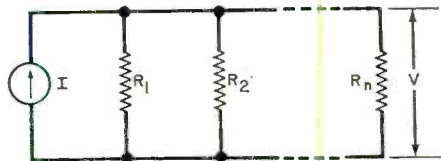

Fig. 13
B. Resistors in Parallel. Consider n resistors connected in parallel (Fig. 13). Applying Kirchhoff's current law, $I = V(1/R_1 + 1/R_2 + \dots + 1/R_n) = V(G_1 + G_2 + \dots + G_n) = VG_{eq}$, where $G_{eq} = G_1 + G_2 + \dots + G_n$ is the equivalent conductance of the